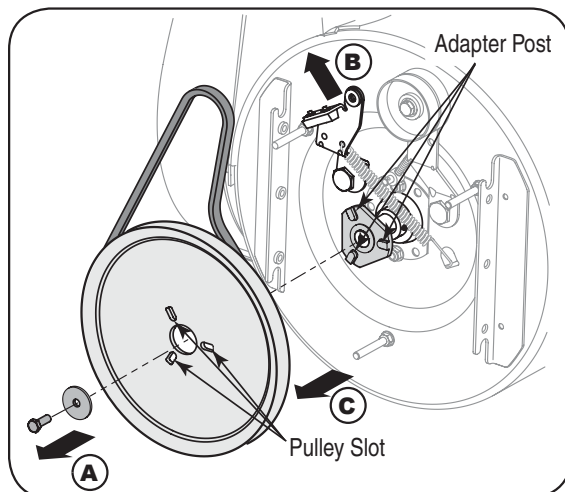

Figure 6-10
9. Block the impeller with a piece of wood to prevent it from spinning and use a 1/2" wrench to remove the hex screw and washer from the center of the pulley on the auger housing. See Figure 6-10.
10. Lift the brake bracket assembly out of the pulley groove and slide the pulley assembly off the posts of the auger pulley adapter to remove the old belt. Refer to Figure 6-10.
12. Turn the pulley as necessary to align its three slots approximately with the posts of the pulley adapter, then move the brake bracket assembly away from the input shaft. While aligning the pulley slots and adapter posts, push the auger pulley fully onto the adapter. Refer to Figure 6-10.
NOTE: If the pulley adapter was removed with the pulley, align the splines of the pulley adapter and auger input shaft, and push the pulley and adapter onto the input shaft. Refer to Figure 6-10.